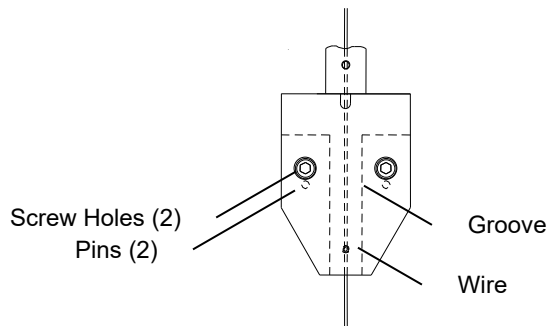

Figure 29 • Mounting Bracket Detail
- Slide the mounting bracket back on its pins. Keep the wire centered so it is captured inside the groove in the mounting bracket (see Figure 29). Be careful not to pinch the wire between the bracket and the accessory body.
For applications requiring higher photometric accuracy, validation on a specific liquid sample is recommended. An example, using water, is shown here (Figure 29).